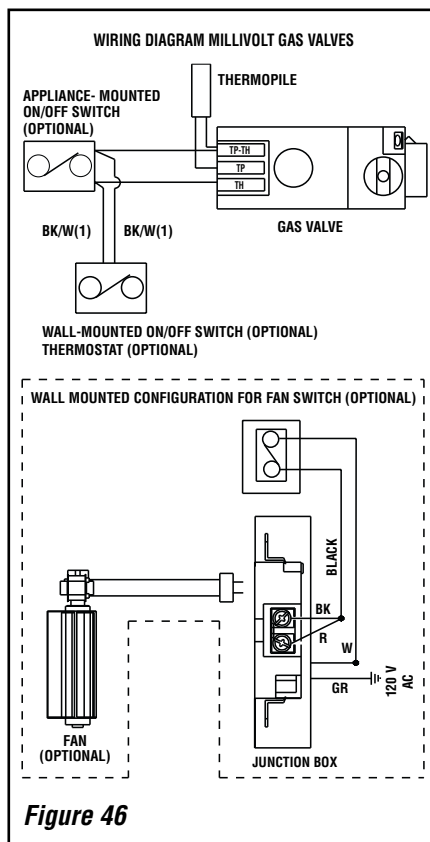

Figure 46
A. Millivolt Wiring (See Figure 46) –
With gas line installed run initial system checkout before closing up the front of the unit. Follow the pilot lighting instructions provided in the Care and Operation Instructions manual. For piezo igniter location see **Figure 46** on **Page 24** (millivolt appliances only).